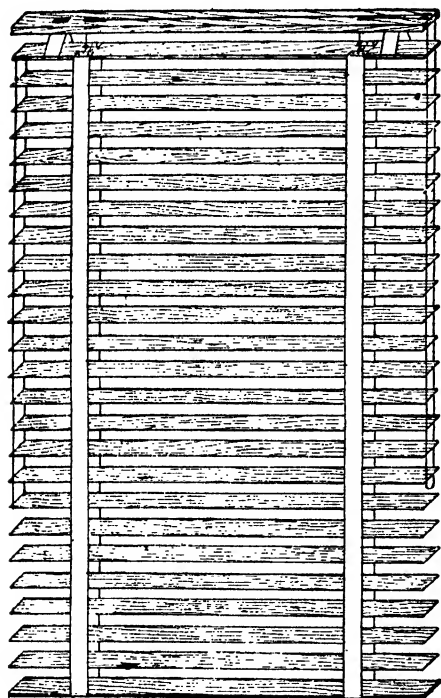
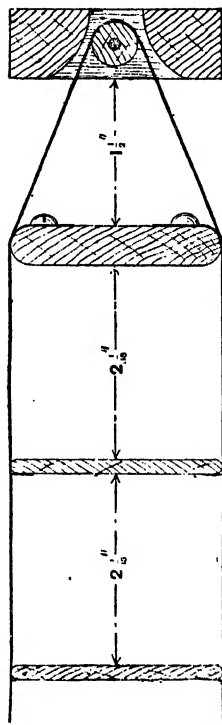
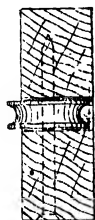
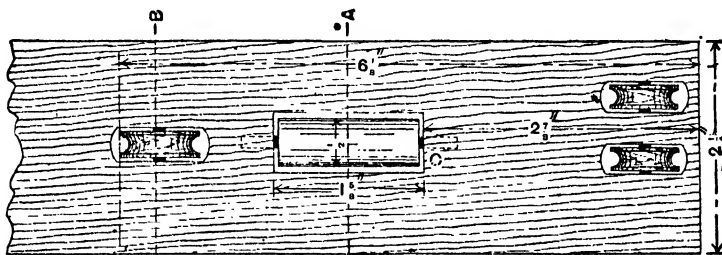

Fig. 99.—Venetian Blind.
Fig. 100.—Part Section of Venetian Blind.
Fig. 103.
Fig. 102.
Figs. 102 and 103.—Part Plan and Section of Top Rail of Venetian Blind.
**Venetian Blinds.**—Fig. 99 shows a Venetian blind open and let down its entire length. The construction is very simple. The top rail is  $\frac{3}{4}$  in. thick by  $2\frac{1}{2}$  in. wide. The top lath is  $\frac{7}{16}$  in. thick by  $2\frac{1}{4}$  in., and the length is according to the width of the window for which it is required. The intermediate laths are prepared from clean yellow pine,  $2\frac{1}{4}$  in. wide by a full  $\frac{1}{2}$  in. thick. They are planed quite smooth and regular in thickness, with the edges slightly rounded, as shown by Fig. 100. For all ordinary blinds, the length from the end of the lath to the cord hole is 6 in., the
louvre being fixed on the opposite end to that from which the blind is drawn, as is indicated in reverse by dotted lines on Fig. 101. The top rail is prepared as shown in Fig. 102. The wheels on which the cord works to draw the blind are made of boxwood, turned in a lathe. They have a hole in the centre about  $\frac{1}{8}$  in. in diameter, and are fixed to the rail by means of a wire nail (see Fig. 103). The nail is driven in from one side, and is so short as not to protrude from the opposite edge. Fig. 103 is a section through B B (Fig. 102). The distance to fix the wheel is determined by the distance from the end of the lath at which the hole is bored. The cord will
run over the top and pass directly in the centre of the hole in the laths. The rollers on which the louvres are adjusted are fixed from the top of the rail (see Fig. 102). A nail without a head is driven partly into the rail at c (Fig. 102), and the other end is let into the rail, so that when permanently fixed it lies quite level. Fig. 100 shows a section through A A (Fig. 102). The ladder tape is woven in one piece, the ladders being quite parallel and equally distanced. The proper length of the blind will be obtained by counting the number of spaces; thus,  $2\frac{1}{4}$  in. (exclusive of the thickness of the lath) will go into the total height of the opening—that is, from the bead on the sill